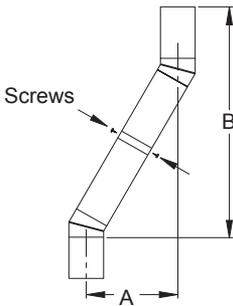

Figure 9 - Elbow Offset
Continue to assemble chimney sections as outlined, making sure that both the inner and outer pipe sections are locked together. When installing double wall snap-lock chimney together, it is important to assure the joint between the chimney sections is locked. Check by pulling chimney upward after locking. The chimney will not come apart if properly locked. It is not necessary to add screws to keep the chimney together (exception - see Figure 9, page 8).
4. All pipe connections between the offset and return must be secured with two screws on the outer pipe only (see Figure 9, page 8). Do not penetrate the inner stainless.